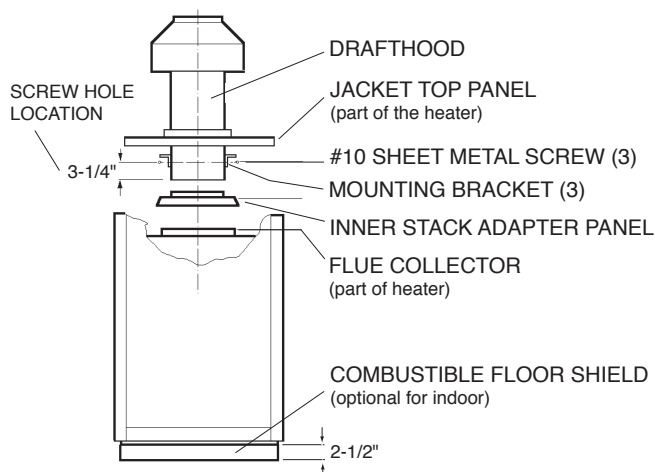

Fig. 10: Indoor Top Installation
1. Remove the louvered jacket top by removing four (4) #10 flathead screws.
6. Attach the three (3) mounting brackets to the stack using the screws provided and the holes that are pre-drilled in the stack. Make sure the brackets are positioned with the flange near the top side of the stack (see Fig. 10). Caution must be taken not to over tighten and strip the screw threads.
7. Turn the assembled stack and jacket top, right side up. The jacket top will be trapped between the brackets and the top of the stack. Place the stack over the inner adapter panel flanged hole and lower the louvered jacket top panel back into its original position. Reinstall the four (4) green #10 flathead screws removed in step 1 above.